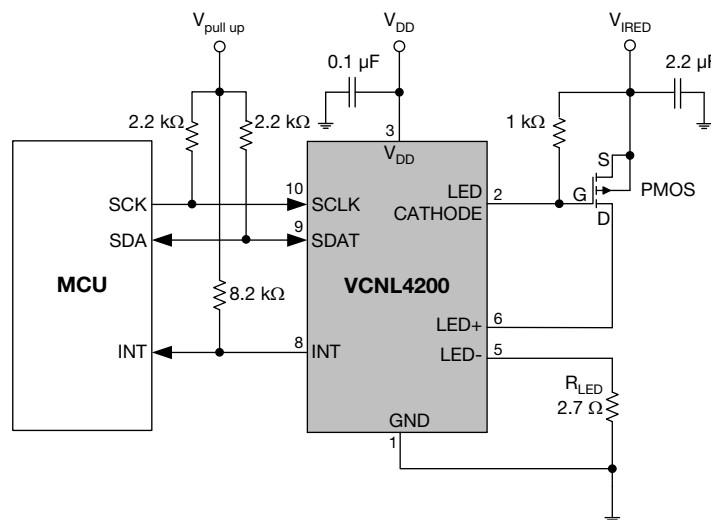

Fig. 11 - Application Diagram
- ⁽³⁾ Based on IRED on / off duty ratio = 1/160, 1/320, 1/640, and 1/1280. The circuitry should use an external MOSFET as shown with Fig.11. Please see also the Application Note "Designing the VCNL4200 into an Application" (www.vishay.com/doc?84327)